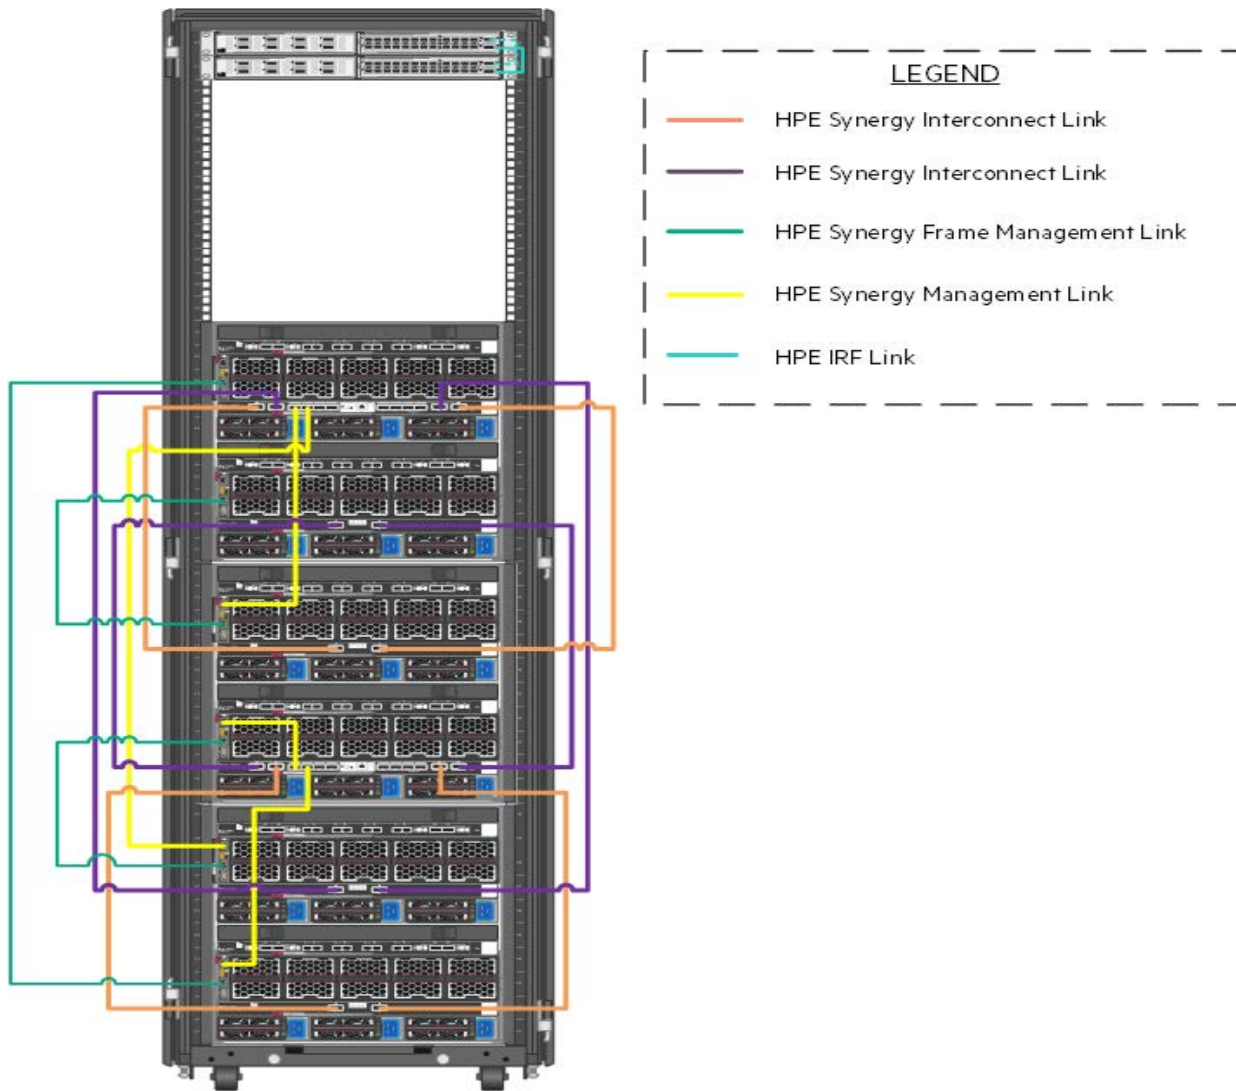

FIGURE 6. Frame and switch cabling within the solution
Figure 6 describes the cabling configuration of the three (3) HPE Synergy 12000 Frames as well as the HPE FlexFabric 5945 Switches and Intelligent Resilient Fabric (IRF) within the context of this solution. These cables carry frame management, inter-frame and interconnect traffic between frames.